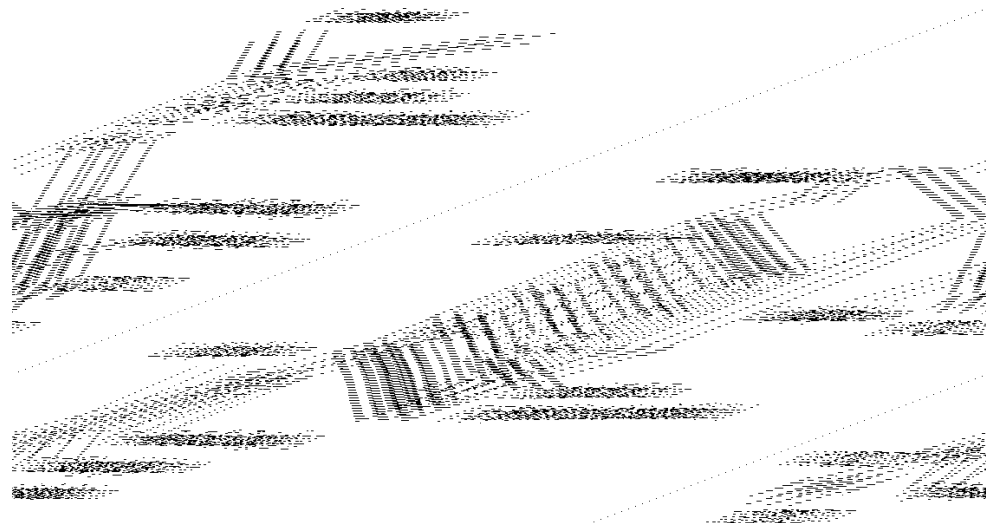

Fig. 6
- 3) Install enough length of two copper tubings provided with Aeroquip couplings between the icemaker and the condenser unit. The two copper tubings should be insulated separately. See Fig. 6.